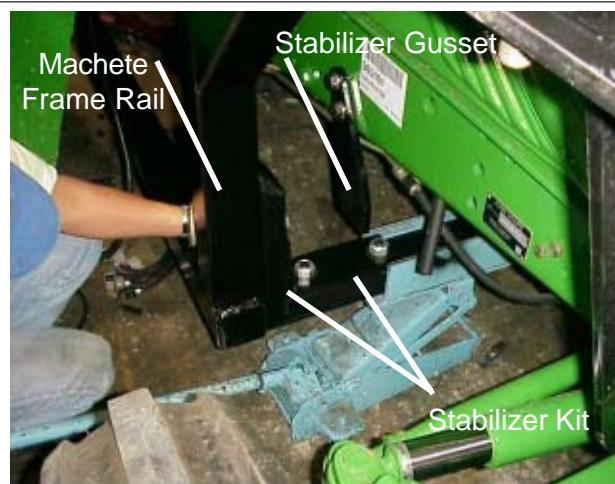
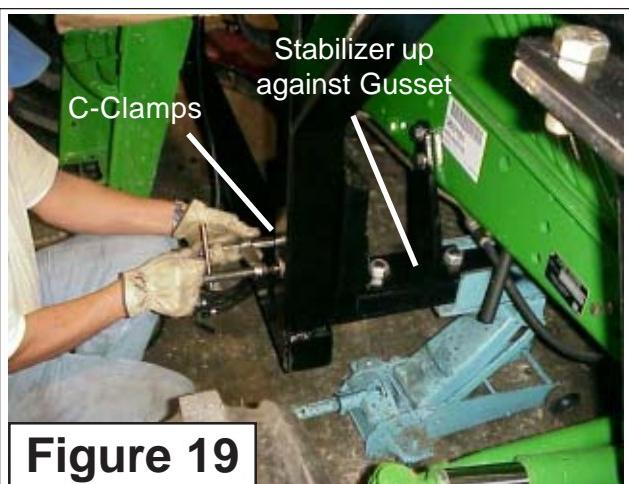

Figure 18
Figure 19
12. Align Stabilizer Kit. Raise Stabilizer Kit with the Floor Jack up until it is flush up against the Stabilizer Gusset Support that should already be bolted to the frame from earlier installation steps (**See Figure 18**). This should be this way on the RH and LH side. DO NOT Weld Gusset to Stabilizer yet this will be done later. Secure the Stabilizer kit to the Frame Rails with C-Clamps on both LH and RH (**See Figure 19**). You may leave the Floor Jack or remove it.